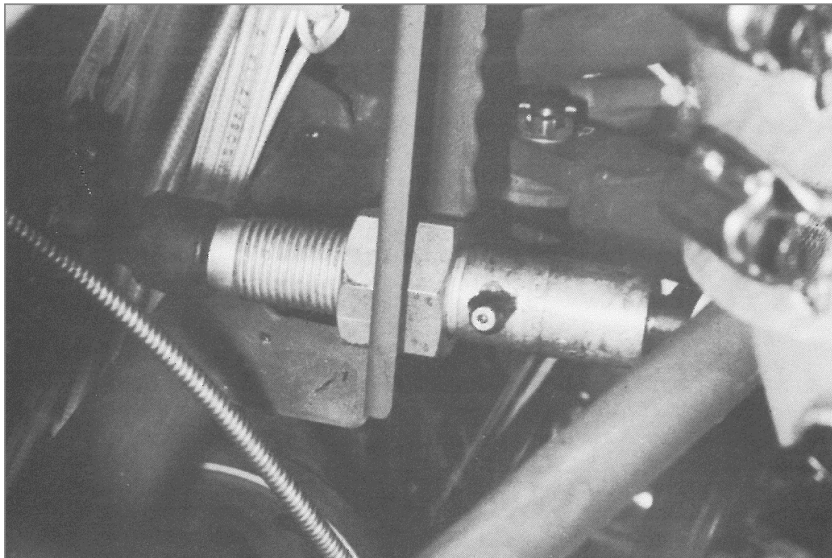

Figure 11-4. Forward End of Clutch Cable
- (1) Disconnect clutch cable (15) at bellcrank arms (13).
- (2) Loosen jam nut (12) and remove rod end (10) and spacer from end of cable (15).
- (3) Remove rubber dust covers from cable.
- (4) Remove upper jam nut (11) from mount block (14).
- (5) Remove two bolts from mount block (14).
- (6) Slide mount block (14) over the end of cable (15).
- (7) Disconnect three clamps holding cable to pylon.
- (8) Remove forward jam nut from pylon mount (Fig. 11-4).
- (9) Remove fiberglass seat deck (Para. 8-8.A).
- (1) Remove rubber dust cover and outside jam nut from forward end of clutch cable.
- (2) Remove clutch cable heat shield.
- (3) Remove Adel clamps that secure cable to the pylon.
- (4) Slide cable through pylon mount (Fig. 11-4). Position forward as far as possible.
- (5) Install large jam nut, rubber dust cover, and small jam nut on cable.